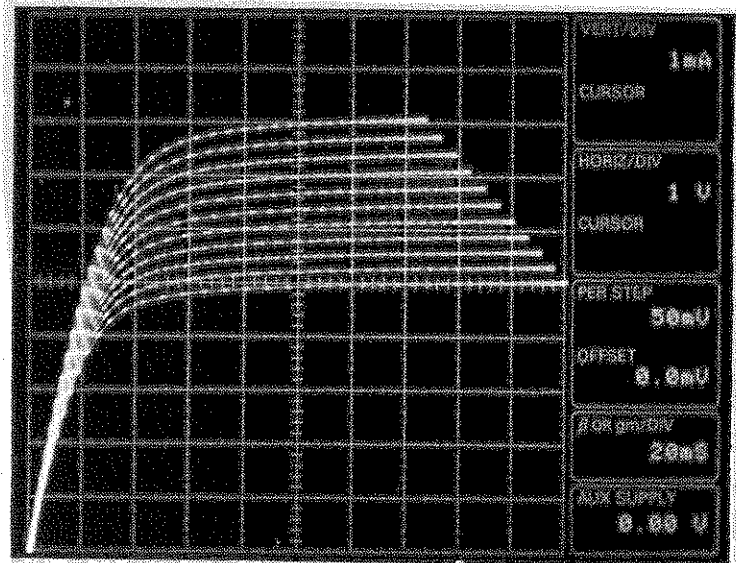

Figure 3-12. Display of FET common-source characteristic curves: I_D vs V_{DS} for 10 steps of gate voltage at 0.05 volt/step.
51. Set the LEFT-RIGHT-STANDBY control to RIGHT and turn the VARIABLE COLLECTOR SUPPLY control slowly clockwise. Note the display of drain current vs drain-source voltage with voltage steps of 0.1 V/step applied to the gate (see Figure 3-12). Since the steps applied to the gate are positive-going, the curves displayed represent enhancement mode operation of the FET. (Set number of steps to zero to display the curve obtained with zero volts applied to the gate, then set number of steps to 10.)